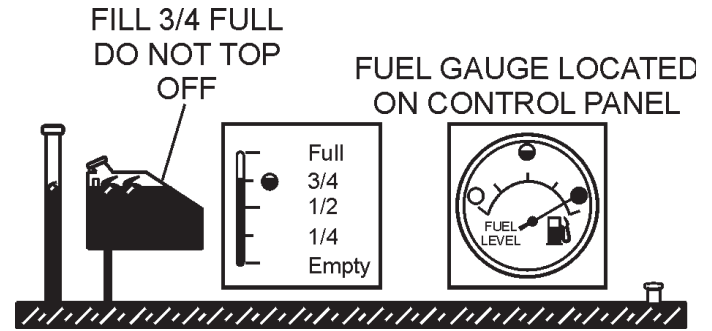

Figure 36. Full Fuel System
5. Figure 36 below reflects a full fuel system.
DO NOT OVER-FILL fuel system. Leave room for fuel expansion. Fuel expands when heated (Figure 36).